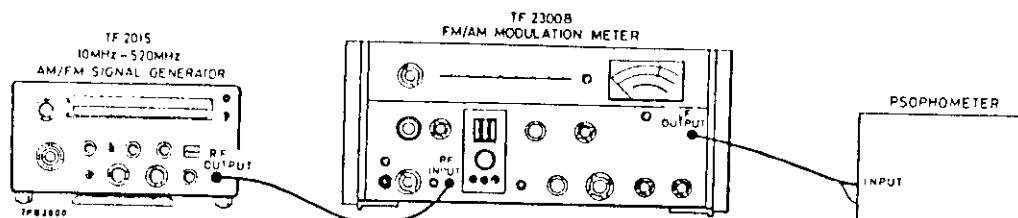

Fig. 4.8 Test gear arrangement to check spurious f.m. on c.w.
- Connect the test equipment as in Fig. 4.8.